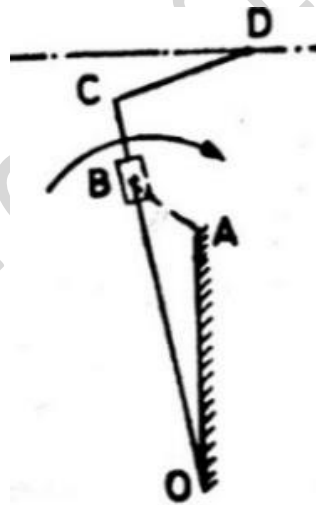

Fig. 4a
- 4 The following data refer to a quick return motion mechanism of crank and slotted lever type as shown in Fig. 4a. The dimensions are; Fixed link  $OA = 250 \text{ mm}$ , Crank  $AB = 100 \text{ mm}$ , Slotted lever  $OC = 400 \text{ mm}$ ,  $CD = 150 \text{ mm}$  and Angle  $OAB = 120^\circ$ . Uniform speed of crank in clockwise direction is 1 rps. The vertical distance of line of stroke of ram at D from O is 450 mm. Determine acceleration of ram at D and coriolis acceleration of slider at B.